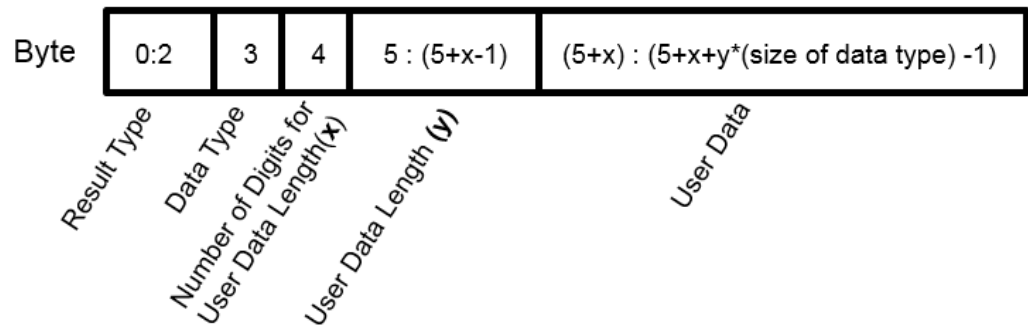

Figure 7-2: User-data-content format
- The content ('user-data-content'), see also Figure 7-2. There are as many bytes as 'LLLLL' specified.